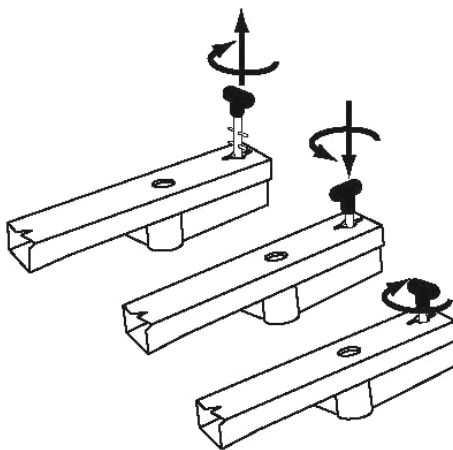

Figure 18a
1. Lift the Handle of the Tow Bar Locking Pin and rotate it (**Figure 18a**) to align the Spring Pins with the slot in the Tow Bar. Continue lifting until both Spring Pins are above the Tow Bar.
4. Lift the Handle and twist it until the Spring Pins align with the Slots in the Tow Bar. Press down to be sure to seat the Pin in the Mounting Plate hole (**Figure 18a**) at the desired location.
5. Rotate the Handle to position the Upper Spring Pin out of alignment with the Slot in the Tow Bar (**Figure 18a**).